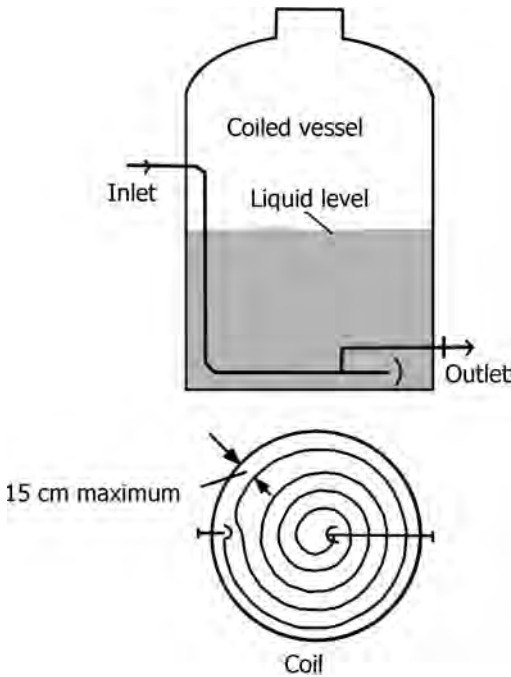

FIGURE 12.8 Heating coils.
- By the use of heating coils through which steam or hot heat transfer fluid is circulated. The coils are installed at the bottom of the tank as shown in Figure 12.8.